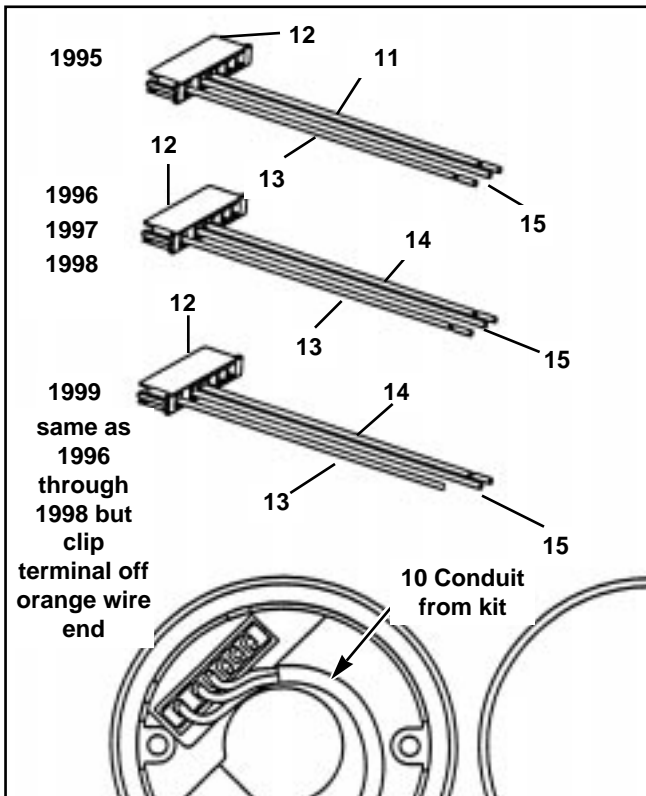

Figure 4. Connecting Harness to Tachometer
1. See Figure 4. It is necessary to assemble a harness from wires, conduit, and connector provided in kit. This harness will plug directly into the back of the tachometer (more here on how to insert terminals into Amp connector). Depending on the model year, different wires are used to make up this harness. After plugging wire ends into connector as shown, cover wires with conduit from kit